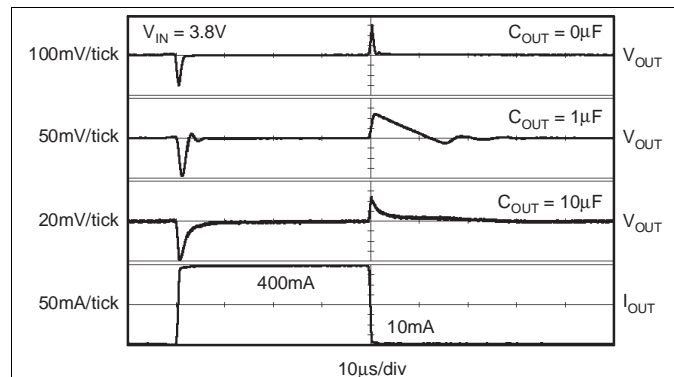

Figure 19. TPS73633 Load Transient Response
The enable pin (EN) is active high and is compatible with standard TTL-CMOS levels. V_{EN} below 0.5 V (max) turns the regulator off and drops the GND pin current to approximately 10 nA. When EN is used to shutdown the regulator, all charge is removed from the pass transistor gate, and the output ramps back up to a regulated V_{OUT} (see Figure 19).